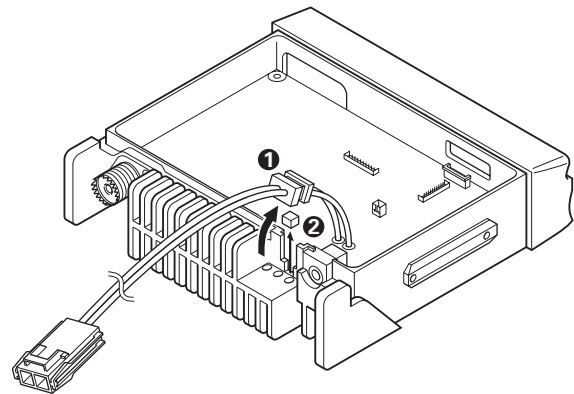

Fig. 1
3. Lift the DC cord bushing (❶) from the chassis and remove the pad as shown in the Figure 1 (❷).